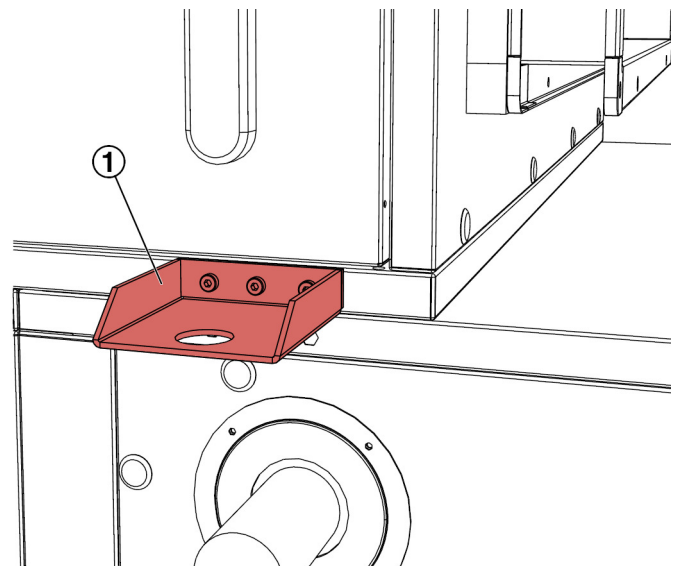

Fig. 17: Removing transport brackets
- ▶ Remove the transport brackets from the upper AHU casing unit ( Fig. 17 /1).